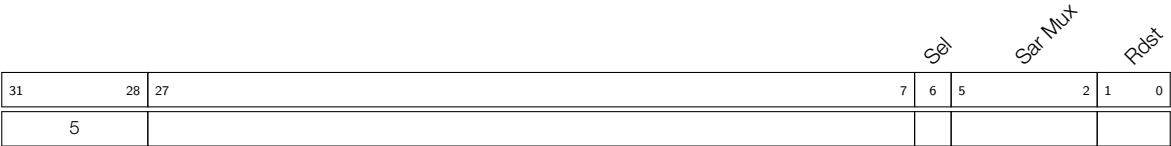

Figure 26-22. Instruction Type - ADC
- Operand** **Description** - see Figure 26-22